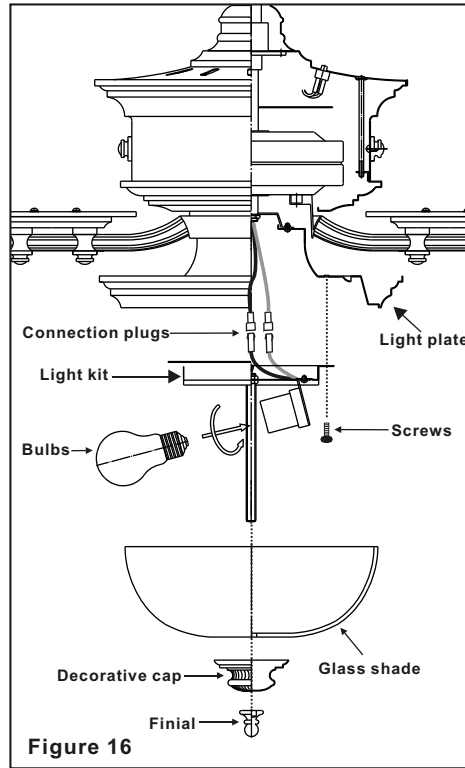

Figure 16
**Step 2.** Raise and hold the light kit close to the light plate and proceed to do the wire connections. Connect the white wire connectors from the light kit and fan, follow the same procedure with the black wire connectors. (Fig. 16)
**Step 3.** Tuck connections neatly into light plate. Place the light kit keyholes over the 3 screws previously loosened from the light plate, turn light kit until it locks in place at the narrow section of the key holes. Secure by tightening the 3 screws previously loosened. (Fig. 16)
**Step 4.** Install 2 x60w medium bulbs (included). (Fig. 16)
**Step 5.** Place glass shade over the light kit and secure it with the decorative cap and finial provided. **DO NOT OVER TIGHTEN.** (Fig. 16)